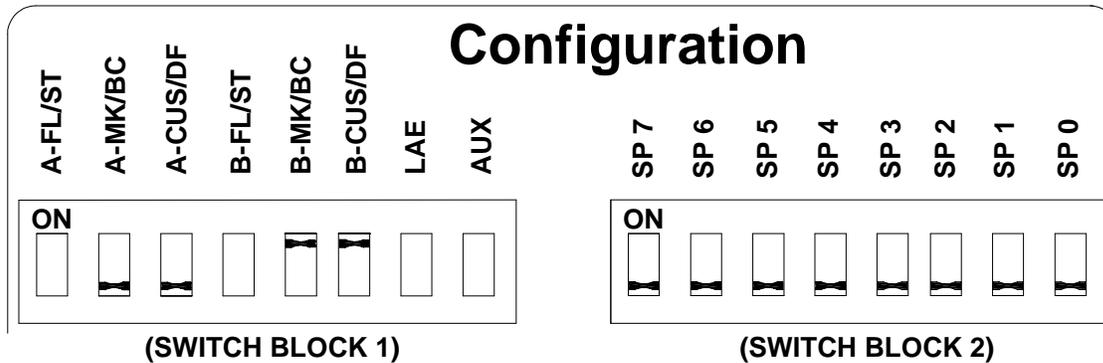

Figure 1-2 - Custom Configuration Switch Blocks
**Note:** "CHAN A Custom Set" LED should be on indicating that the unit is programmed for custom setpoints. See Figure 1-2 and Table 1-1 for additional information.